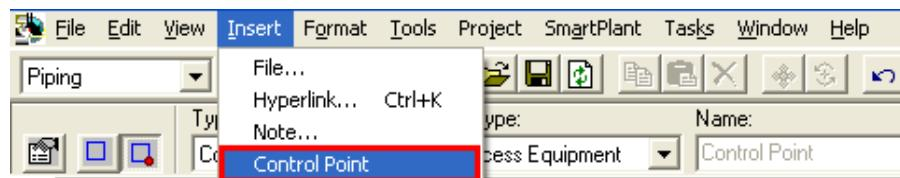

Figure 13. 25: Insert > Control Point Command
3. Select **Distribution Connection** point as **Control Point Parent**, on **1001-P_Spool1**, as shown in Figure 13. 26.